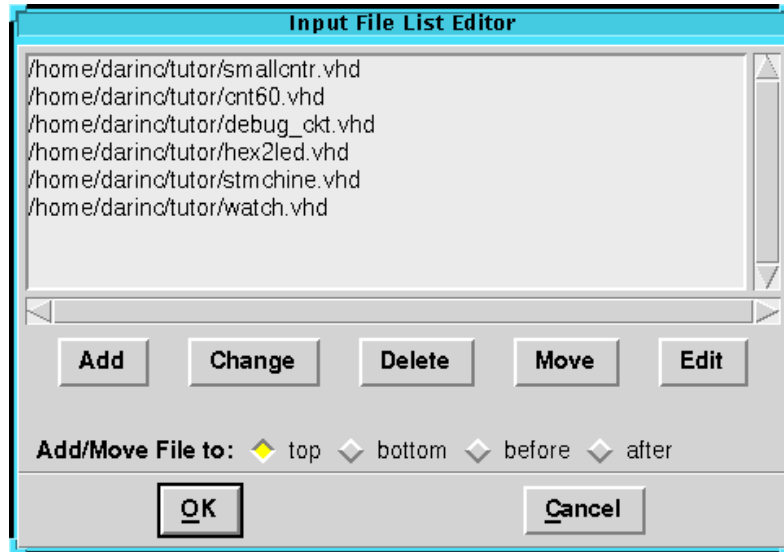

Figure 1-11 Input File List Editor Dialog Box
- b) In the Input File List Editor dialog box that opens as shown in the following figure 1-11, select the Add button.